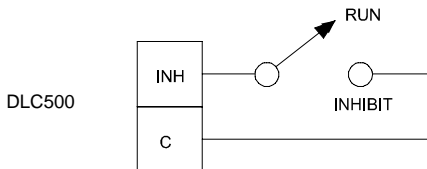

Figure 5. Alternative DLC500 connections
Connect S1, S2, and S3 to the drive's signal common, signal input and reference voltage terminals, respectively (S1, S2, and S3 on Minarik drives). Refer to Figure 5, pg 20.
For this reason, connect DLC500 terminal S1 to drive terminal S0, and DLC500 terminal S2 to drive terminal S2. Set the drive MIN SPD trimpot full CCW. Make no connection to drive terminals S1 and S3. Refer to Figure 5.
For this reason, connect DLC500 terminal S1 to XP-AC drive terminal S2. Connect DLC500 terminal S2 to XP-AC drive terminal S1. Make no connection to S3. Refer to Figure 5.
Short INH to common (C) to inhibit the DLC500. The DLC500 output will reduce to 0 volts. Remove the short to resume operation. Refer to Figure 5.
Note: Refer to Figure 5 for connections to Minarik regenerative and XP-AC series drives. Contact your Minarik sales representative for assistance.